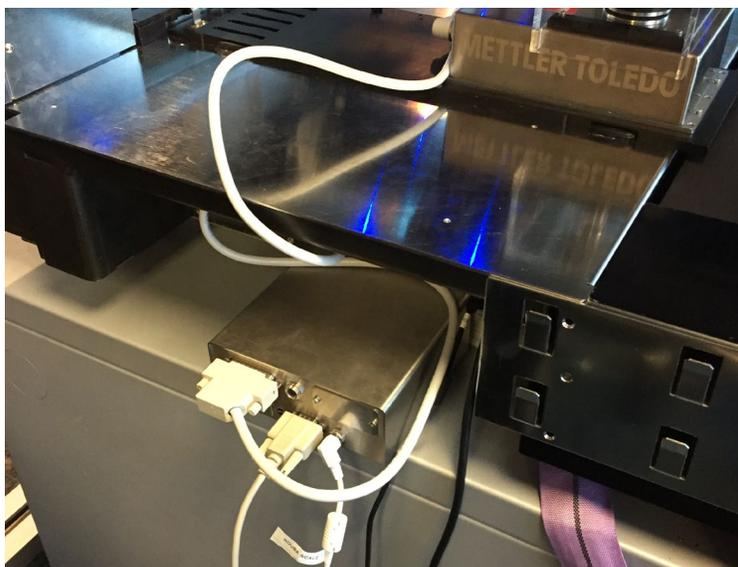

Figure 4-4: Connecting to the control box
3. **Connect the AC adapter** from the Power Supply port on the control box to an AC outlet. Compare the control box to the one shown in Figure 4-4 before continuing.